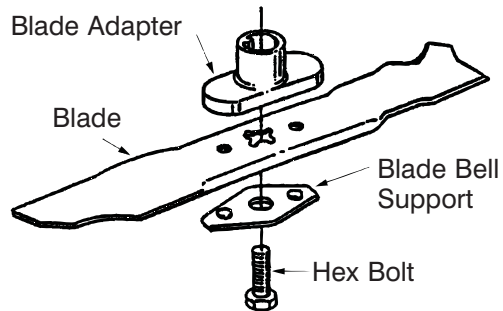

Figure 13
- Remove the bolt and blade support which holds the blade and adapter to the engine crankshaft. Remove the blade and adapter from the crankshaft. See Figure 13.
Before reassembling the blade and the blade adapter to the unit, lubricate the engine crankshaft and the inner surface of the blade adapter with light oil. Install the blade adapter on the crankshaft with the “star” away from the engine. Refer to Figure 13. Place the blade with the side marked bottom (or with part number) facing away from the adapter. Align the blade bell support over the blade with the tabs in the holes of the blade and insert the hex bolt. Tighten the hex bolt to the torque listed below: